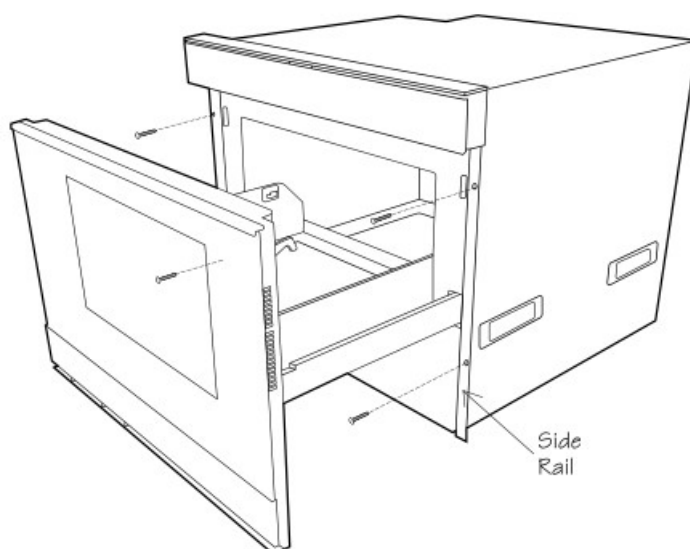

Figure 9
3. Slide the Convection Microwave Drawer all the way until the mounting flange is flush with the face of the cabinet. See Figure 9.
4. Open the drawer. Using the 4 holes on the drawer as a template, pre-drill the cabinet using a 1/16" bit. See Figure 9.